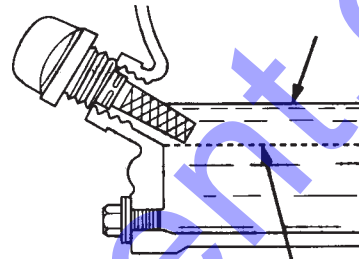

Figure 6. Engine Oil Dipstick (Oil Level)
4. If the oil level is low (Figure 6), fill to the edge of the oil filler hole with the recommended oil type (Table 5). Maximum oil capacity is 0.63 quarts (0.60 liters)